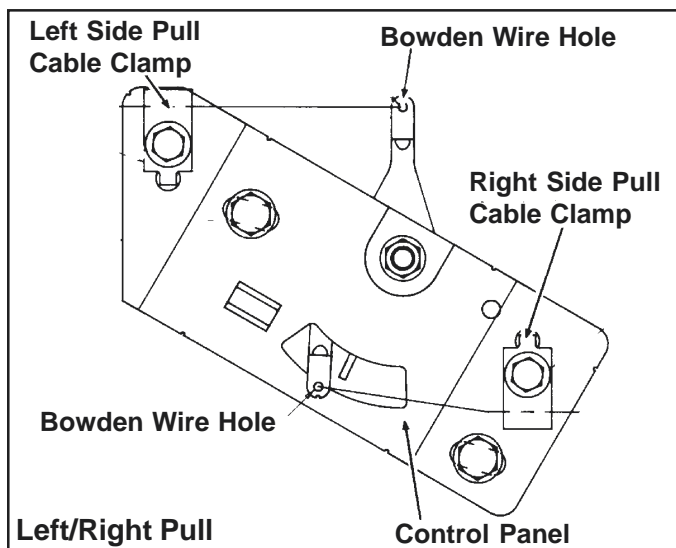

Figure 3. Variable RPM Control.
G. Changing the High Idle RPM on a CH Engine with Variable RPM Control (See Figure 3)